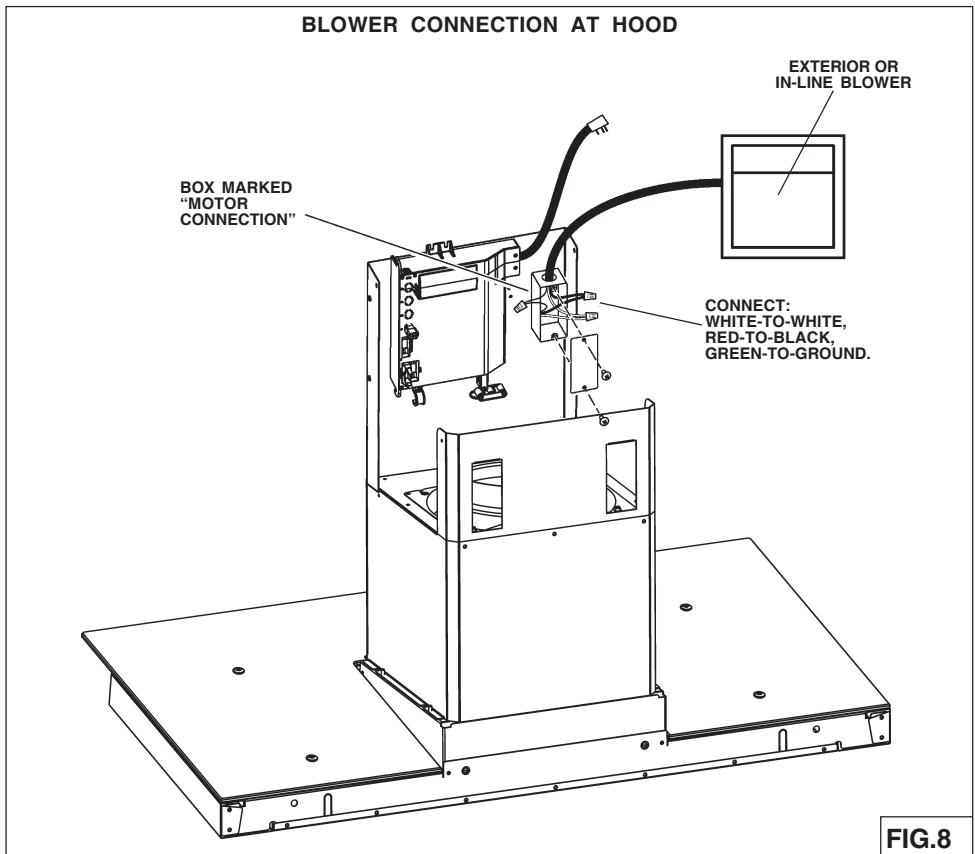

FIG.8
1. Run 2-wire plus ground power cable from the Exterior or In-Line Blower to the hood wiring box marked "motor connection". (Fig.8).